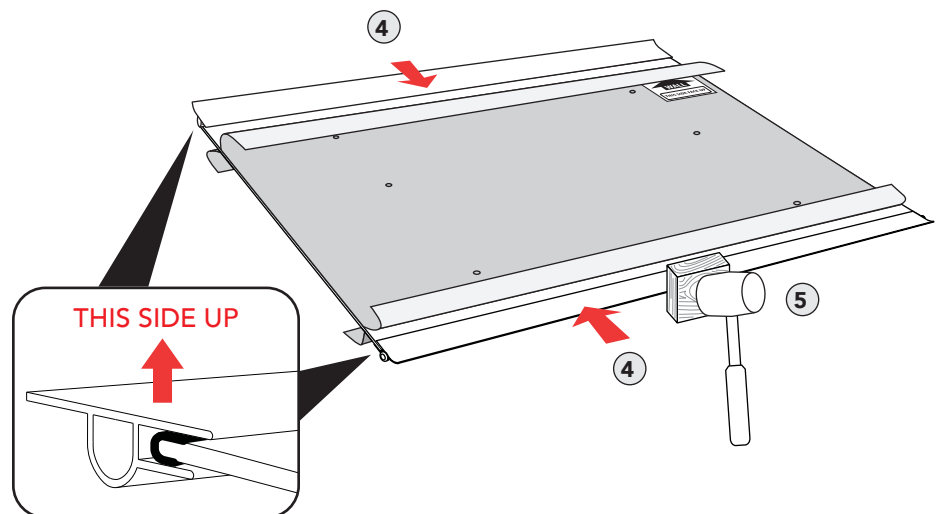

Fig 11
① Carefully peel the protective film approximately 2 inches from both the top and bottom on front and back edges of the sheet.
② Peel the double sided Rubber Strip Adhesive Tape (Part I) apply the tape to the polycarbonate edges (top only) and carefully align and insert the Rubber Strip Gasket (Part C) and firmly press onto the adhesive tape to secure.
③ Ensure the Rubber Strip Gaskets are smoothly connected to the sheet and with scissors trim off the excess Rubber Strip Gasket.
④ Join the Awning Front/Back Bars to sheet by pressing onto the Rubber Strip Gasket edges. Ensure the Awning Front/Back Bar are correctly oriented as illustrated in fig. 11, labeled THIS SIDE UP.